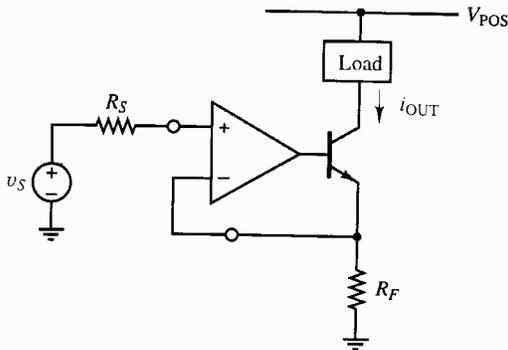

Fig. P10.57
10.57   The series/series feedback circuit of Fig. P10.57 can be used to produce large output currents from a signal voltage v_S .
10.58  Design a simple modification to the circuit of Fig. P10.57 that will permit currents of both positive and negative polarities to be produced by v_S .